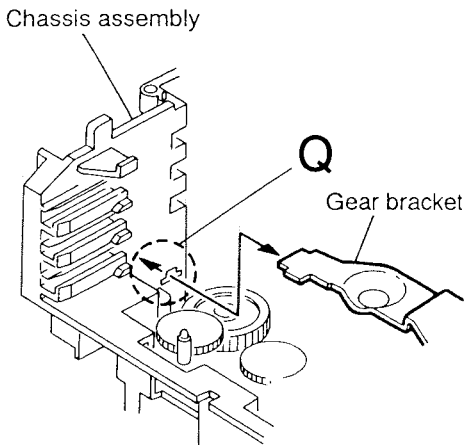

Fig.5-54
3. From the notch "Q" section" on the chassis assembly fixing the edge of gear bracket, remove and take out the gear bracket (See Fig. 5-54).